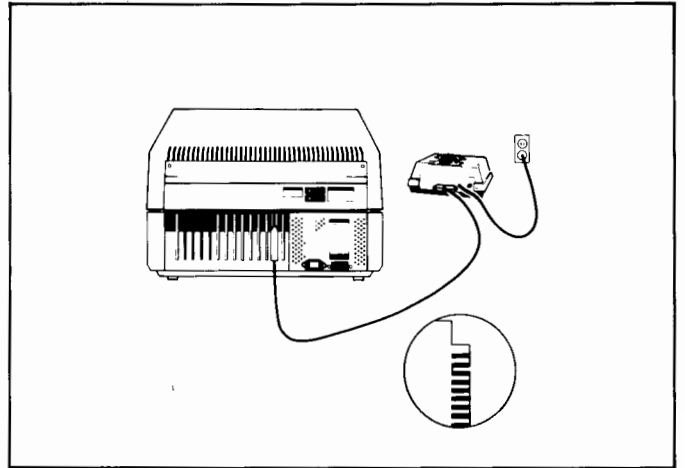

Figure 2-6. Connection of the Terminal to a Modem or Computer
3. This step is only required when the terminal is to be used with a computer. Connect the proper interface cable hood connector to the Communication Interface PCA. The card connector has been notched to match the hood connector. Connect the other end of the interface cable to your modem or computer (figure 2-6).